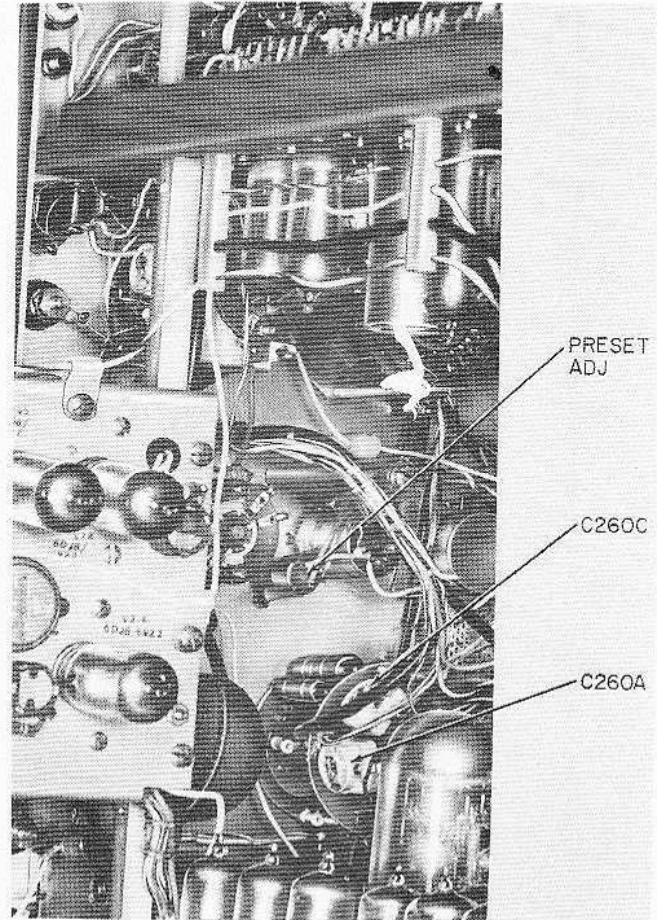

Figure 7-5. Time Base B Sweep Speed Calibration Points
b. Connect the Simpson 260 multimeter using a dc function, to the wiper arm of the PRESET ADJUST potentiometer (see figure 7-5).